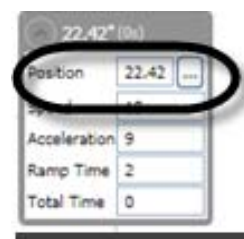

Figure 212
**Position** (Figure 212) is the target position where you want the motor to go. This number is displayed in scaled units (inches, feet, degrees, etc.). By default, Spikemark uses the current position of the motor as the target position. The button to the right of the **Position** text box will bring up the **Spike Selection** window. Spikes are discussed in the “Spikes” section on page 167.